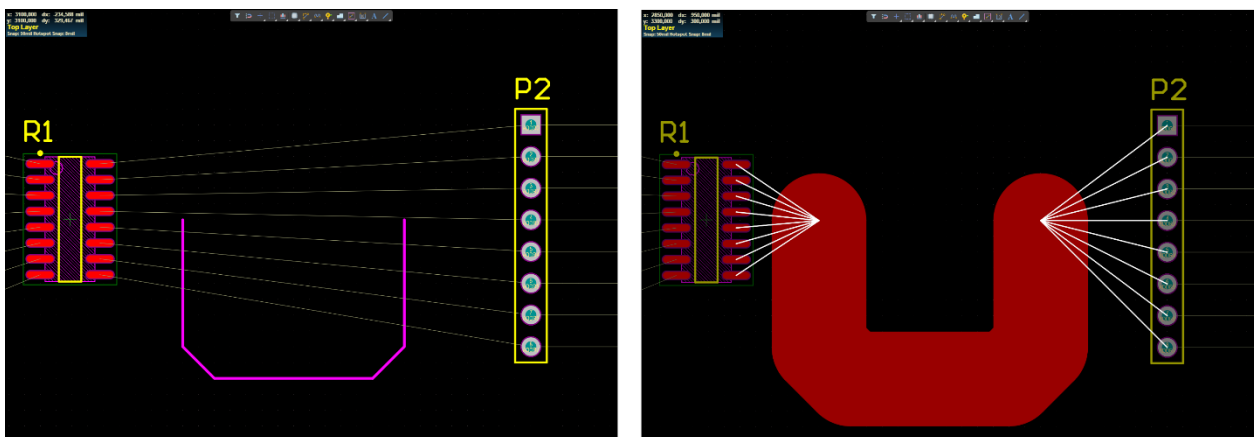

Figure 8. Placed, wide Route Guide
21. In the *PCB ActiveRoute* panel click on the **Route Guide** button. Now, moving onto the PCB, notice the fly lines are bunched up on the cursor. Start to place the Route Guide with a first mouse click, THEN hit the UP ARROW key multiple times (min 5x, max 10x) to increase the size of the Route Guide. Follow the line on Mechanical Layer 1 as reference to place the guide as shown in Figure 8.